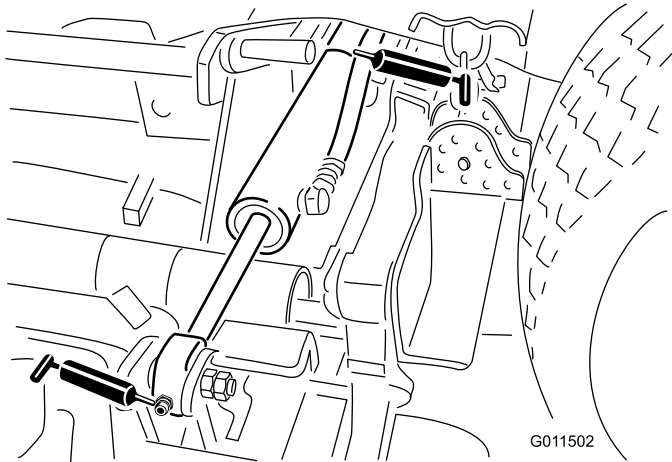

Figure 46
Wing lift cylinder (4) (Figure 46)